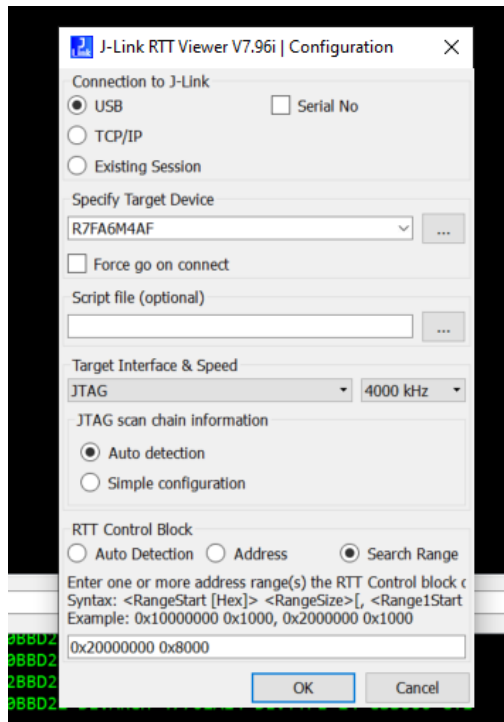

Figure 11. RTT Viewer Options
6. Ensure your configuration matches the configuration shown in Figure 11.